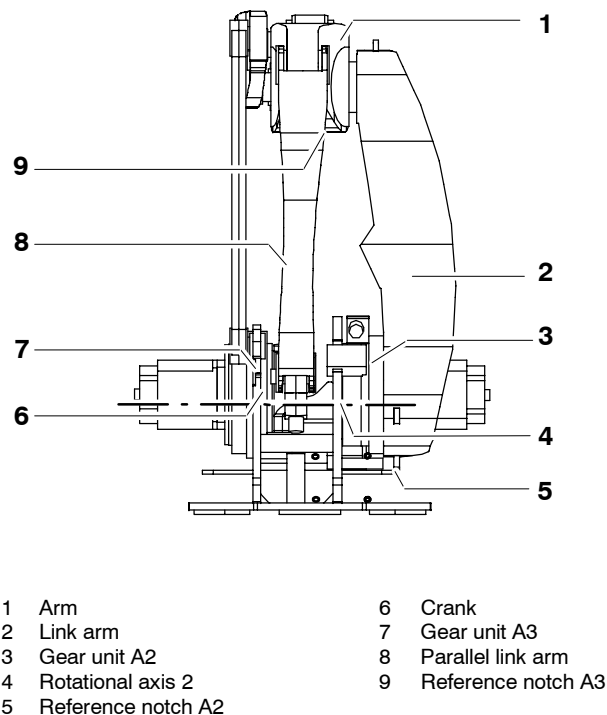

Fig. 5 Structure of link arm
The link arm (Fig. 5/2) contains the gear unit A2 (3) at its lower end. The gear unit A 2 (3) is used both as drive element and to support the link arm assembly (2). Reference notches (5, 9) are provided to define the mechanical zero position of axes 2 and 3. The signal cables and power supply lines of the electrical installations are routed in the interior of the link arm housing from the rotating column to the arm (see Chapter 8, "Electrical installations").